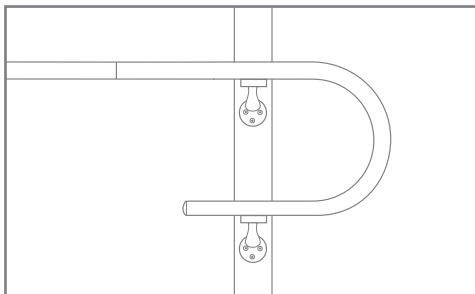

Fig. 19
- Attach Hand Rail loop to the mounting surface using 2 Hand Rail brackets - Fig. 19. following the instructions in this guide.